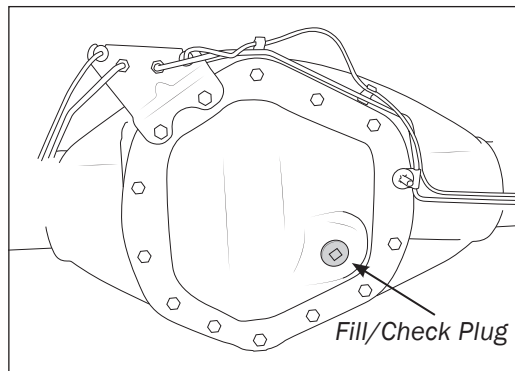

Figure 1
3. Remove fill/check plug (fig. 1), **DO NOT discard it will be reused.**